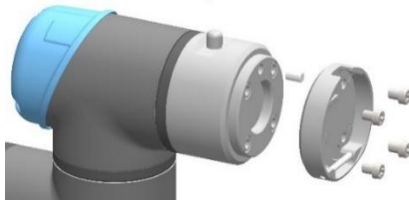

Figure 1.1
- 1) Insert the precision pin into the dedicated hole in the robot-part (*see figure 1.1*)